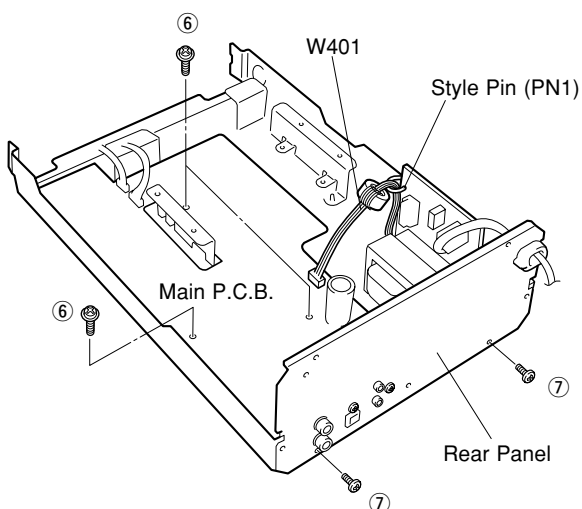

Fig. 3
- b. Remove 3 screws (⑥) and 2 screws (⑦) in Fig. 3.
- c. Loosen the style pin (PN1) to set W401 free in Fig. 3.